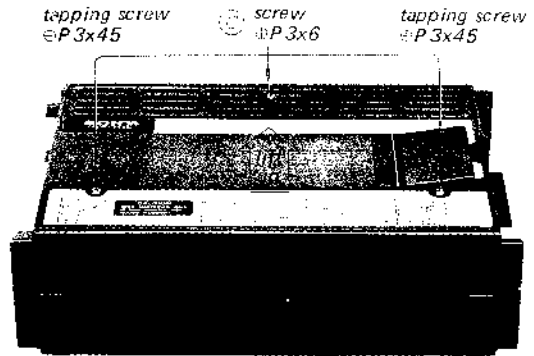

Fig. 2-3.
7. Remove the three screws labeled in Fig. 2-3.